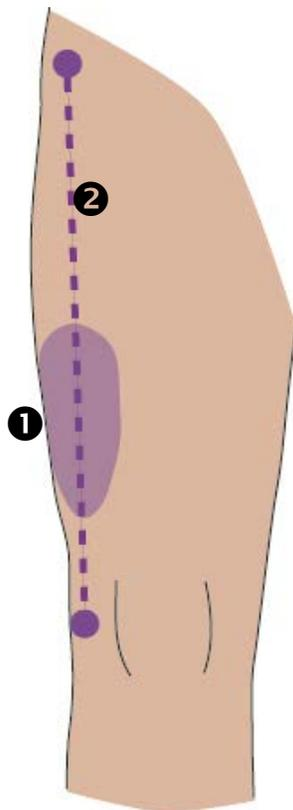

Figure 13. Optimal Thigh Location
- 1 Locate the vastus lateralis, as you would for an IM injection (Figure 13 ❶).
- 2 Use the lateral femoral condyle and point of hip as landmarks to draw an imaginary line along the thigh (Figure 13 ❷).